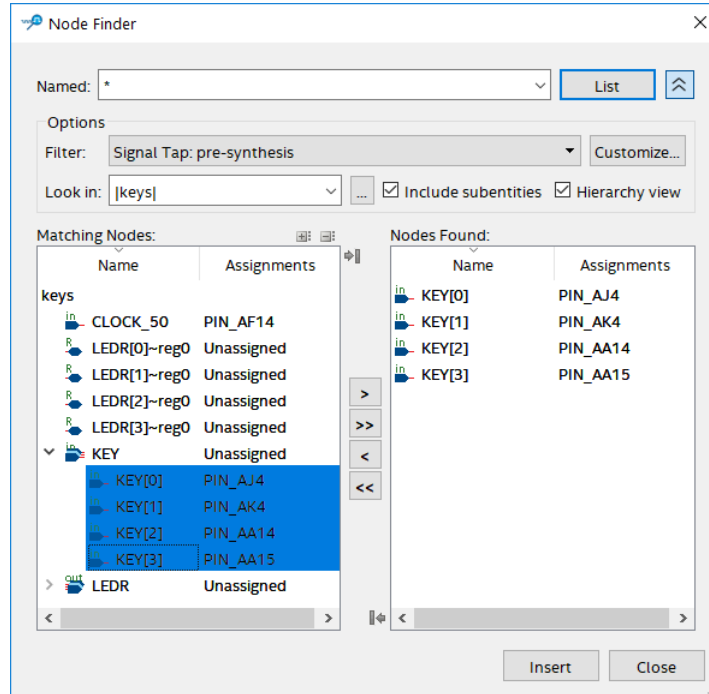

Figure 7. Adding nodes in the Node Finder window on a DE-series board.
3. We now need to add the nodes in the project that we wish to probe. In the Setup tab of the SignalTap window, double-click in the area labeled Double-click to add nodes, bringing up the Node Finder window shown in Figure 7. Click on  or  to show or hide more search options. For the Filter field, select SignalTap: